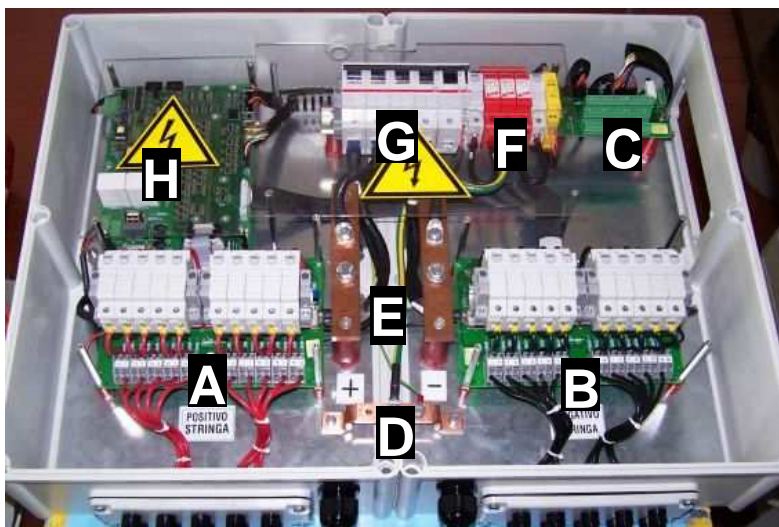

Figure 6-1: Inside of the PVI-STRINGCOMB-S
6.3.1 Input connections (Ref. §6.1 items A and B, Figure 6-1)
6.3.2 Signal inputs and outputs (Ref.§6.1 item C, Figure 6-1)
Presence of the ground cable connected to the relevant bar (Figure 6-1 item D) is necessary to ensure correct operation of this component.
6.3.5 DC isolating switch (Ref.§6.1 item G, Figure 6-1)